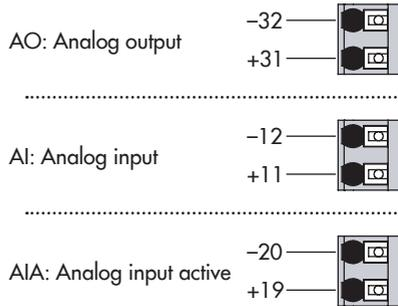

Fig. 5-7: Terminal assignment
- Connect the wiring as shown in Fig. 5-7.
- Route the grounding connection (PE) to the corresponding terminal.